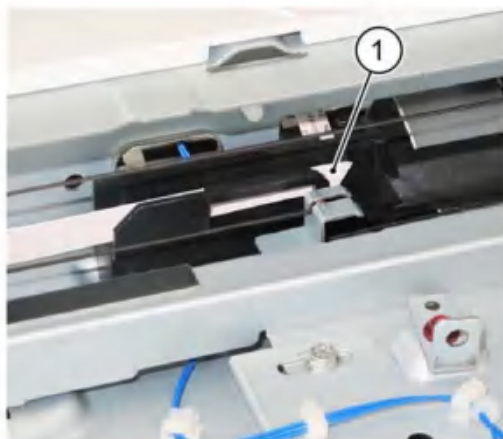

Figure 5 Cable assembly disconnection (2)
8. Disconnect the FFC LED cable assembly from the guide, Figure 5.